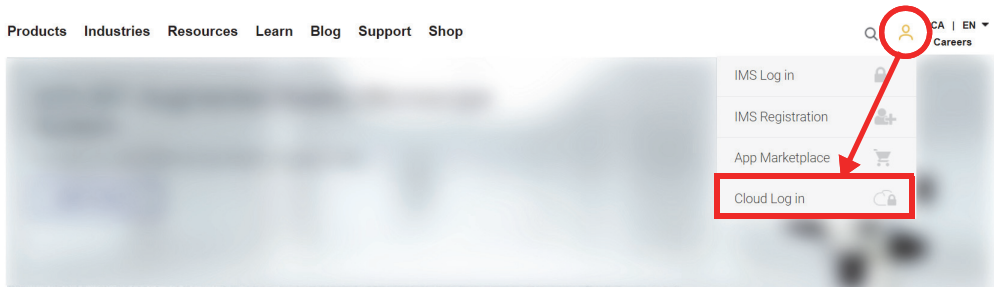

Figure 9-5 Cloud Log in
- If you need to create a new account on the OSC, go to www.olympus-ims.com, and click **Cloud Log in** to create your account (see Figure 9-5 on page 223).